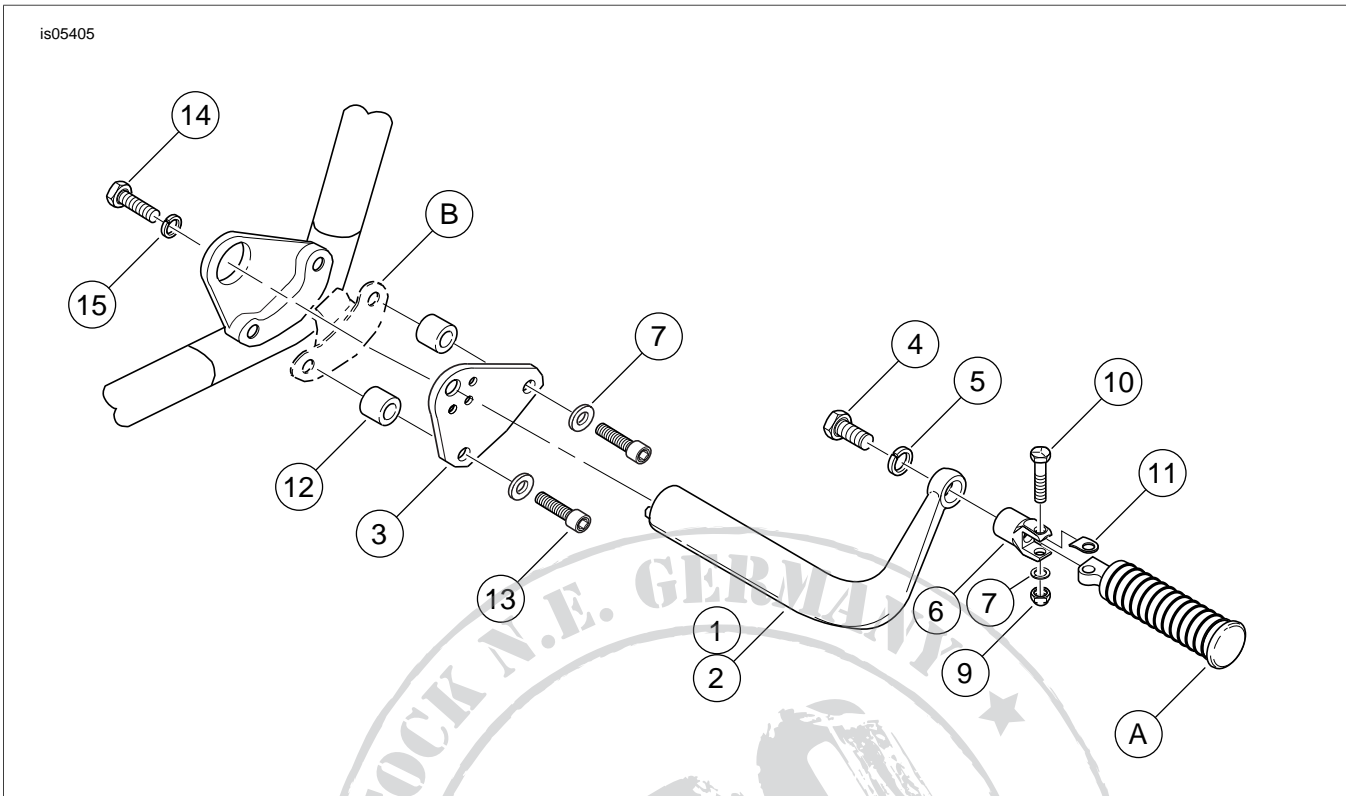

Figure 1. Service Parts: Adjustable Highway Footpeg Support Kit
See Figure 1 and Table 1.
1. See Figure 1 and Table 1. The lower, right front, side of the motorcycle at the engine mount is shown.
3. Place the right arm (1) on the mounting plate (3) with the arm adjusting dowel in the selected position hole (choice of three). Align the arm screw hole with the screw hole in the mounting plate. Install screw (14) and lockwasher (15) into arm. Tighten screw to 45-50 ft-lbs (61-67.8 Nm).
4. Place arm and the mounting plate with the two spacers (12) against the outside of the regulator wire support plate aligning the two mounting holes.
5. Place lockwashers (7) on the two longer screws (13) and install the two longer screws, with lockwashers through the mounting plate holes and into the engine support holes. Tighten screws (13) to 16-28 ft-lbs (21.7-38 Nm).
6. Reposition regulator wires and wrap them to frame with a new cable strap (8) from kit.